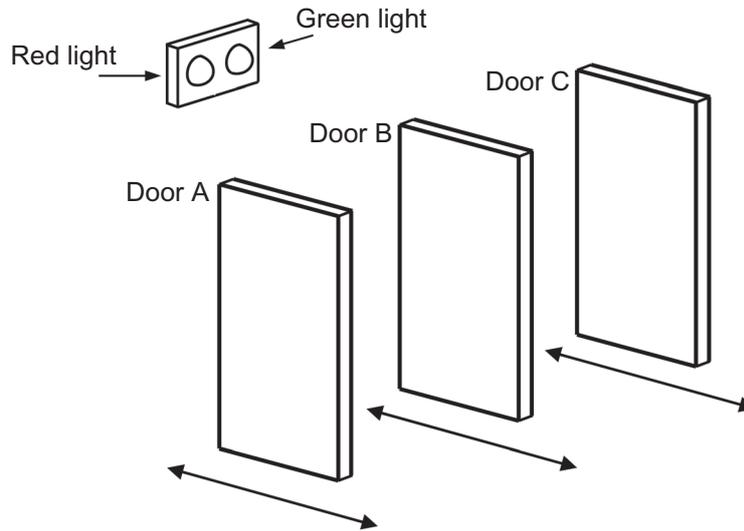

Fig. 2(a)
- 2 (a) A manufacturing clean room is accessed through three sliding doors A, B and C as shown in **Fig. 2(a)**. The sequence for opening the doors must be observed in order to minimise contamination when entering and exiting the room. Correct operation requires the opening of any single door or any two adjacent doors. All three doors must not be opened at the same time and both outer doors (A and C) must not be opened at the same time. A wall mounted green light indicates that the doors are being used correctly while a red light warns of incorrect usage. Each door generates a logic 1 signal when open and a logic 0 when closed. The green light is illuminated when all doors are closed.
- (i) Draw a truth table to represent all possible logic states for the doors and the corresponding red and green indicator lights shown in **Fig. 2(a)**. [3]